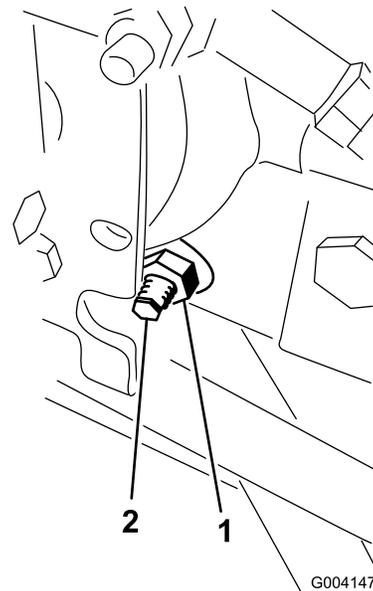

Figure 58
3. On the right side of the hydrostat, loosen the locknut on the traction adjustment cam (Figure 58).